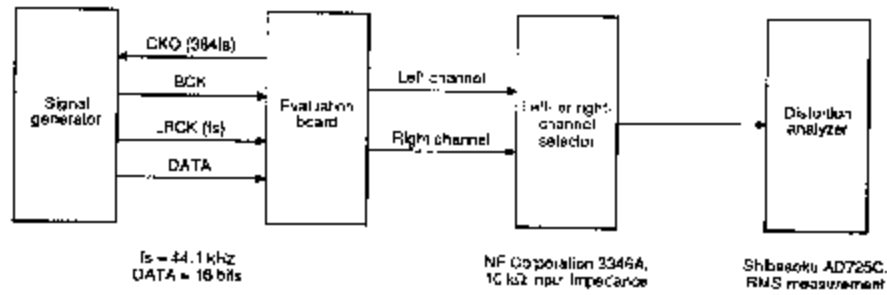
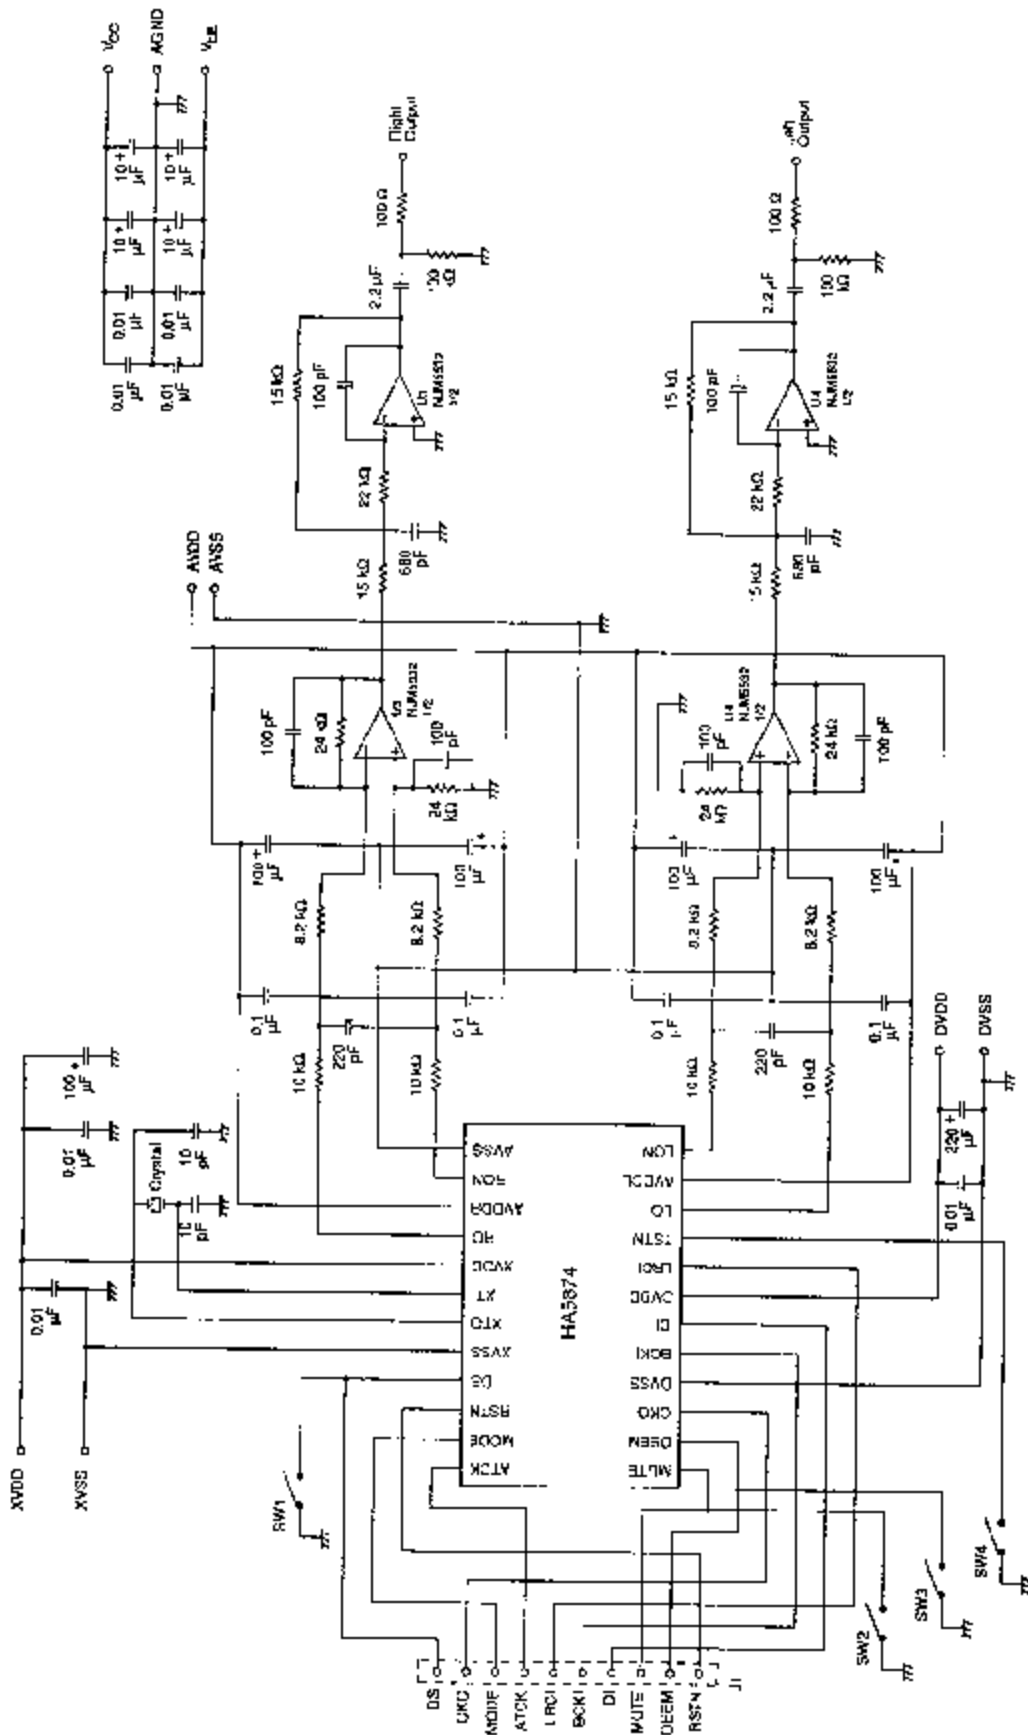

Figure 1. Measurement circuit block diagram
Figure 2. Measurement circuit.
1. The measurement circuit block diagram is shown in figure 1. The measurement circuit itself is shown in figure 2.